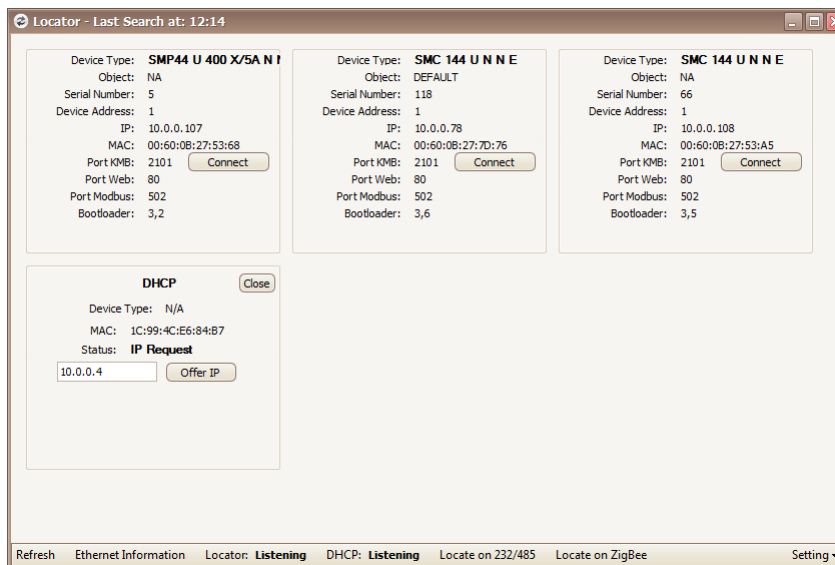

Figure 14: Window of *Locator* tool - provides automatic discovery of the supported instruments in a local network.
- (c) Ethernet: enter correct IP address and port (default: 2101). If you do not know the right values you can use *Locator*⁴ (fig. 14).